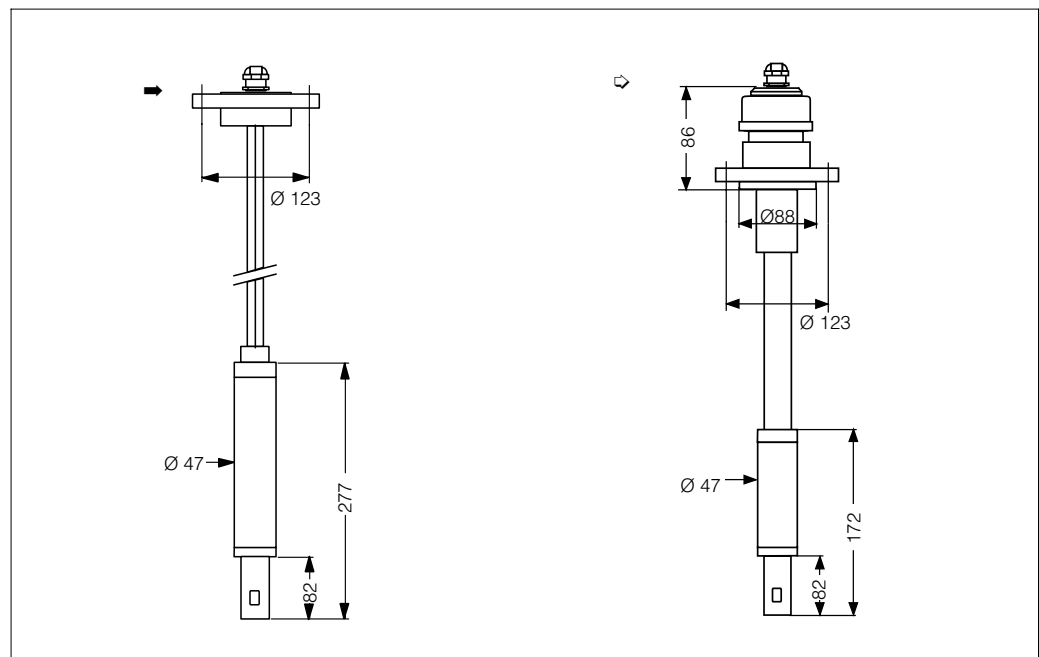

Fig. 3.5: Immersion sensors for measuring transmitters
1. Unscrew Pg thread of cable duct on top of the assembly (see fig. 3.5, ➡ or ⇄).
2. Loosen sensor by turning it anticlockwise (bayonet lock ⑧).
When assembling or disassembling the sensor the Pg thread must be unscrewed before pulling the measuring cable (see fig. 3.5).